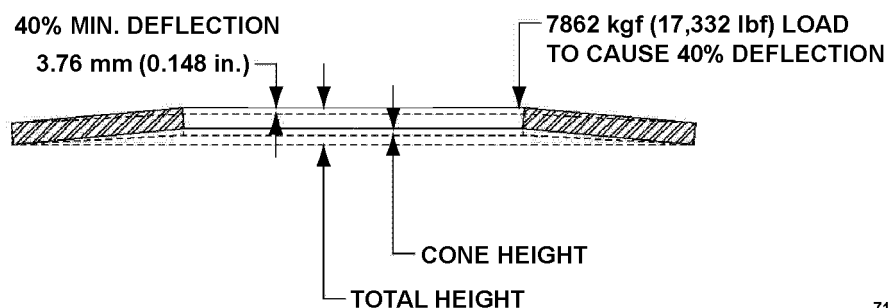

FIGURE 7-3. BELLEVILLE WASHER DEFLECTION
4. Inspect Belleville washers (7) for cracks and damage. Replace any springs that are damaged or significantly worn.
5. Measure the unsprung total height (cone height + material thickness) of Belleville washers (7). It must be greater than or equal to 21.16 mm (0.833 in.). Discard any Belleville washers that do not meet this specification.
- d. Gradually apply force. Follow all necessary safety precautions for operating the UTM. The Belleville washer will start deflecting due to compression as shown in the example in Figure 7-3.